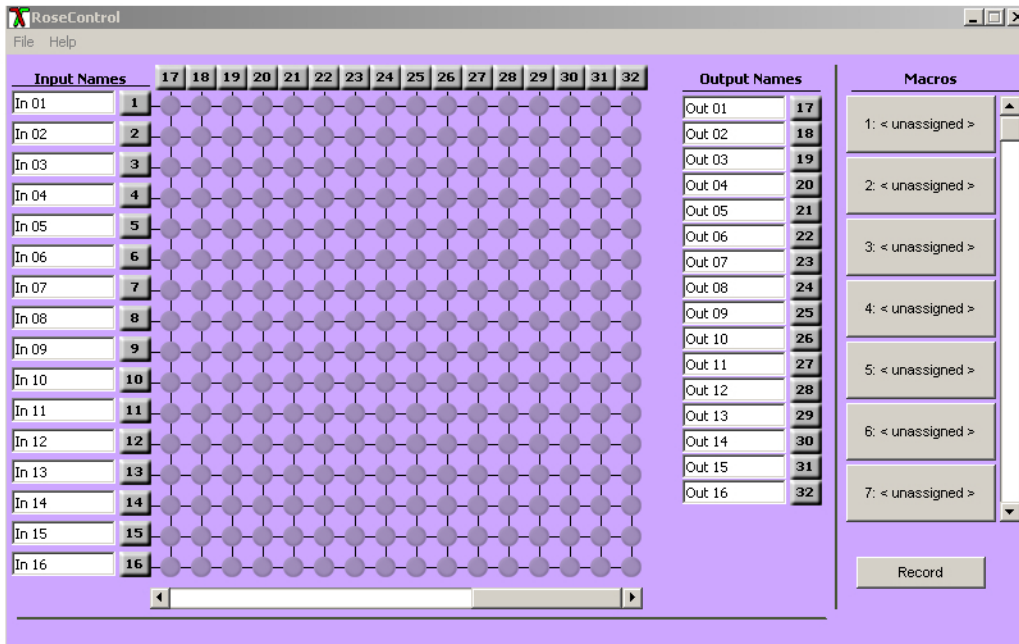

Figure 6. RoseControl 16x32
6. When all fields are set to the correct values, click on the “OK” tab. The matrix OSD will display as shown in Figure 6